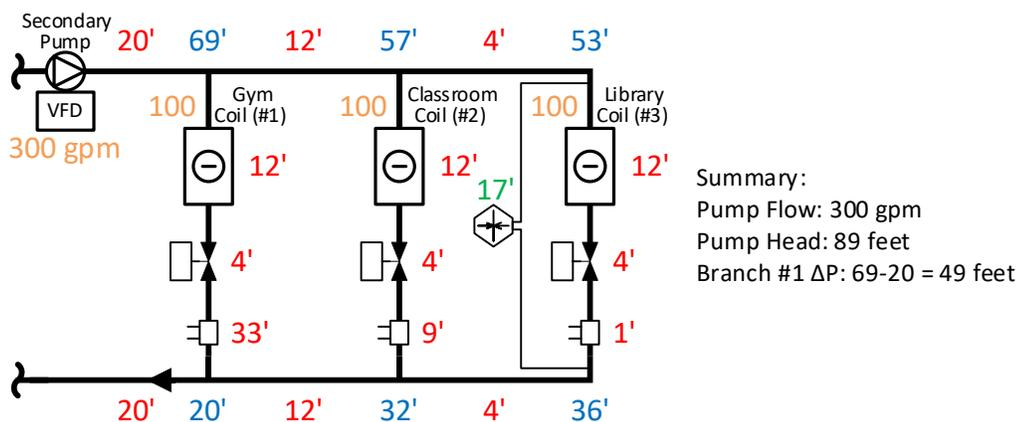
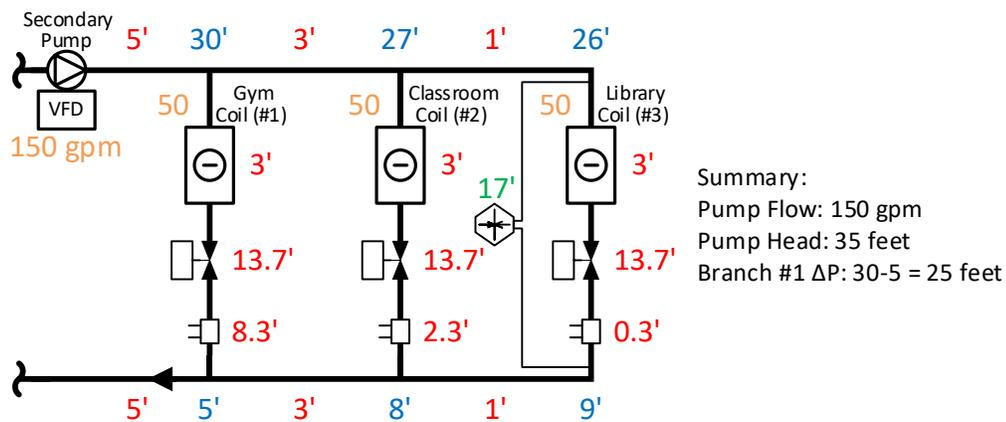
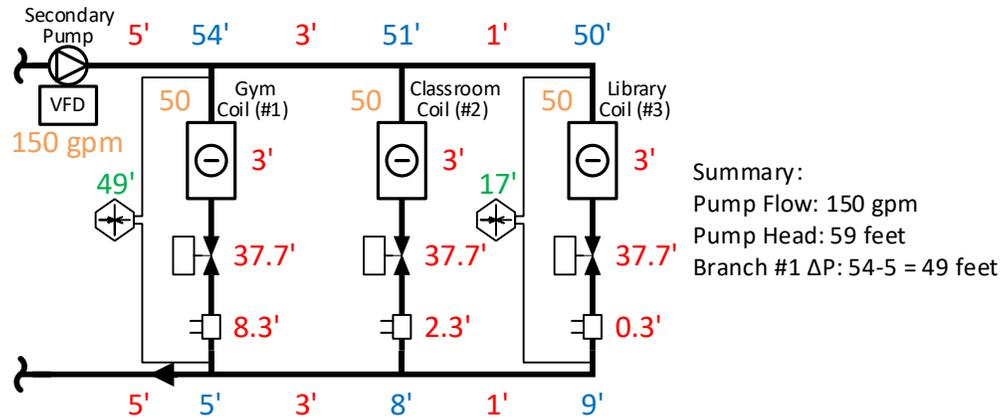

Figure 2 – Balanced CHW System (at Full Load)
Figure 3 – Balanced CHW System (at 50% Load)
Figure 7 – Balanced CHW System, Dual DP Sensors (at 50% Load)
During design of our school, the engineer will run a load calculation on our building to determine how much CHW we need for each AHU. For simplicity, let’s pretend that all 3 coils need 100 gpm, shown in orange on Figure 2. (Note that I am using imperial units, but the math and discussion works for metric units as well, if you ignore the units shown). To deliver that 300 gpm, we need a pump that can create sufficient pressure to “push” the water through each coil. The longer the pipe, the more elbows, and the smaller the pipe will all result in the pump needing more pressure to deliver 100 gpm to each coil. With the system drawn out on paper, using the length and size of pipe, the engineer can determine the pressure drop across each piece of pipe. The engineer can also determine the pressure drop across each component of the system, such as a CHW coil. Those pressure drops are shown in Figure 2 in red and are simply some typical numbers you might see in a real system; in other words, they are made up and have not been calculated. Note that pressure drop shown for the control valve and the circuit setter for coil 3 would be in the fully open position.
In a simple system like this, one can quickly realize that the farthest coil will have the highest pressure drop. In more complex systems, note that this is not always intuitively obvious. By adding up each number in red, we can determine that the pump will need to be selected to deliver 89 feet of pressure, or more commonly referred to as “head” in the engineering world. For those of you not familiar with the term feet, it is synonymous with PSI and abbreviated with a single quotation mark. For those of you who have selected pumps, you know that you’d select one with more than 89 feet as a safety factor but let’s ignore that for now for keeping the math simple later. With the pressure leaving the pump known (89 feet), we can determine the relative pressure at each unique point in the system. As an example, leaving the pump at 89 feet, we arrive at the first pipe run with a pressure drop of 20 feet. Therefore, at the takeoff from the CHW main for coil 1, it would be 89-20=69 feet. This math can be continued around the critical path and each point is shown in blue in Figure 2.
In a modern hydronic system, a variable frequency drive (VFD) will be installed on the secondary pump, which will modulate to maintain a fixed differential pressure (DP) in the system. Most commonly, this DP sensor is chosen to be placed on the critical branch. The theory is as the valves on the coils begin to open, the VFD will speed up to match the increasing demand in the system, and vice versa. This setpoint is determined at the end of the TAB process by measuring the DP across the critical branch, which in our example is 17 feet (12+4+1=17 feet). This is shown in green in Figure 2.
Figure 3 shows our system if the three control valves close to get 50 gpm (50% load) across each coil.
Notice what has happened to the values in red and blue – they have dropped as well. This is because of the formula presented earlier. Recall that at full load (Figure 2), the piece of pipe between the pump and the first branch was a pressure drop of 20 feet. This was with a flow of 300 gpm. Now that the flow has dropped to 150 gpm (3 coils at 50 gpm), we can calculate the pressure drop for the reduced flow as follows:
So, for a 50% reduction in flow, the pressure drop falls 75%. We can do this for all the pressure drops in red from Figure 2...except the control valve. Remember the control valve is closing, which means that its geometry is changing. As such, the formula above is not valid. The good news is we can still calculate its pressure drop. Remember that our DP setpoint is 17 feet. That will be the same no matter what. So, if our CHW coil pressure drop fell from 12 to 3 feet, and our circuit setter pressure drop fell from 1 to 0.25 (rounded up to 0.3) feet, then our control valve pressure drop must be 17-3-0.3=13.7 feet. Also, since we know the branch pressure drop, we can do the same for branch 1 and 2. Interestingly the control valve pressure drop is the same for all three branches (do the math and prove that to yourself).
Let's assume that the load on the classroom and library coil is 50%. Our DP setpoint is still 17 feet. Look back at Figure 2 and Figure 3, and in the summary section look at the branch 1 pressure drops. You'll see that at 100% load, the branch pressure drop is 49 feet whereas at 50% load its 25 feet. If the gym needs 100 gpm, which it probably does at the load condition we have described, there is no way we can get 100 gpm in this operation. We simply do not have a high enough pressure drop across branch 1 to "push" 100 gpm of water through it. Since the math gets a little funny here, I won't try and type it out, but you will only be able to do 70 gpm through coil #1, even if the control valve is 100% open. This will result in a hot gym because we are underflowing the CHW coil.
Let's go back to Figure 2 and move the DP from the critical branch (branch 3) and put it right at the discharge of the pump. Using the same logic as described to figure out the original setpoint of 17 feet, we can determine the setpoint at the discharge of the pump to be 89 feet.
As you can see, our control valves have had to absorb a huge amount of the pressure drop due to the excess pressure the pump is creating. If you are thinking, “well you need to just decrease your DP setpoint,” you would be correct...but only for this operating point. When you needed 100 gpm through branch 3, any DP setpoint less than 89 would result in less than 100 gpm of flow. You do still save energy in this case, since the flow has decreased, but it is nowhere near the amount of energy as in Figure 3. Note: you can also damage a pump operating it at constant head variable flow, depending on the pump curve, and this large pressure drop across a control valve is noisy.
assumptions and maybe put multiple DP sensors, which control to the “worst case.” That ensures we have adequate flow 100% of the time and we never underflow for a Saturday basketball game. Sounds good in theory, right? This is shown in Figure 7.
The setpoint for coil 1 has already been calculated, during our discussion about underflow for Figure 3 & 4, where we said we needed a branch 1 pressure drop of 49 feet to get a flow of 100 gpm. Our other DP sensor setpoint is still 17 feet. The BAS will control to maintain the “worst” DP sensor. In other words, the sensor will always be at or above setpoint. In Figure 7, not surprisingly, branch #1 is the worst and the pump speeds up to maintain 49 feet. The branch 3 setpoint is exceeded and is actually 41 feet. So, while yes, we have ensured no coil will underflow, we have cut our energy savings by a relatively decent margin from Figure 3 to Figure 7 due to the increased pump head.
If you have been “yes, but...” as you went through this, that is great! There are a lot of things I ignored here: automatic flow control valves instead of circuit setters, DP setpoint reset based on valve position, sensor-less pumping... The list goes on; we will get to those in future newsletters. For now, the takeaways are: 1) ensure your DP setpoint is across your critical branch, is working properly, and not using a “fallback” mode where it defaults to a pressure sensor at the plant. 2) Ensure the DP setpoint is appropriate for the system as determined in Figure 2. If someone has increased the DP setpoint since the original TAB, why was it done and can it be reduced? 3) If you do not know the original TAB setpoint, hold off on getting your system “re-TAB’d.” There might be better things you could do to make use of your money. 4) Check and make sure you do not have conflicting DP sensors which negate your potential energy savings.